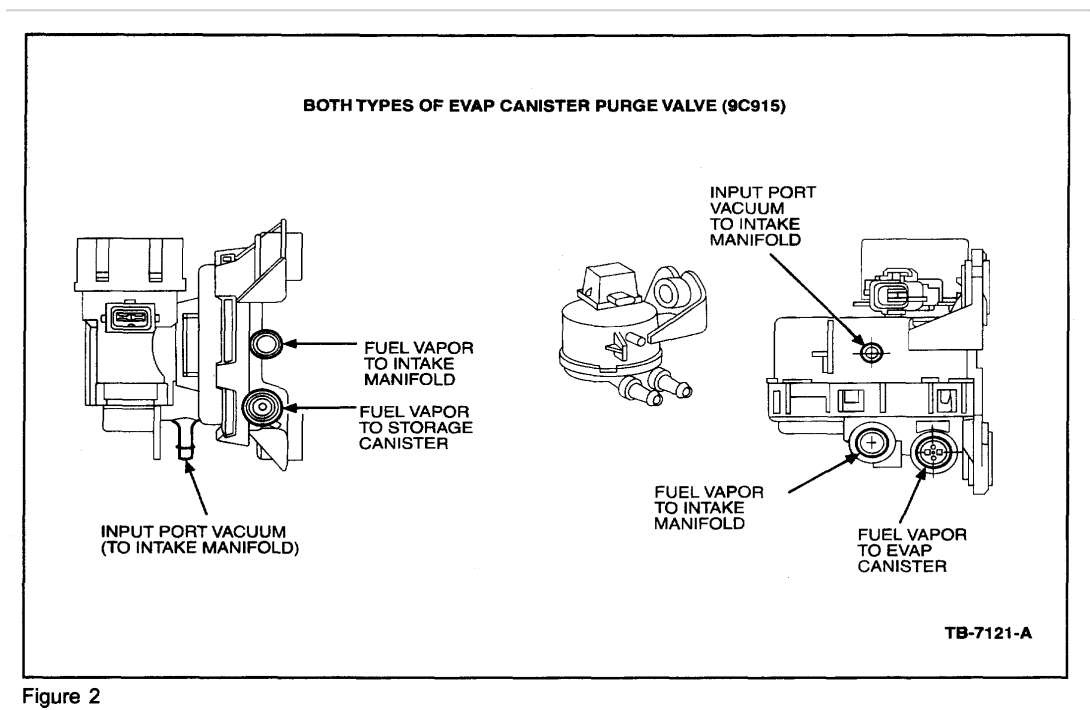
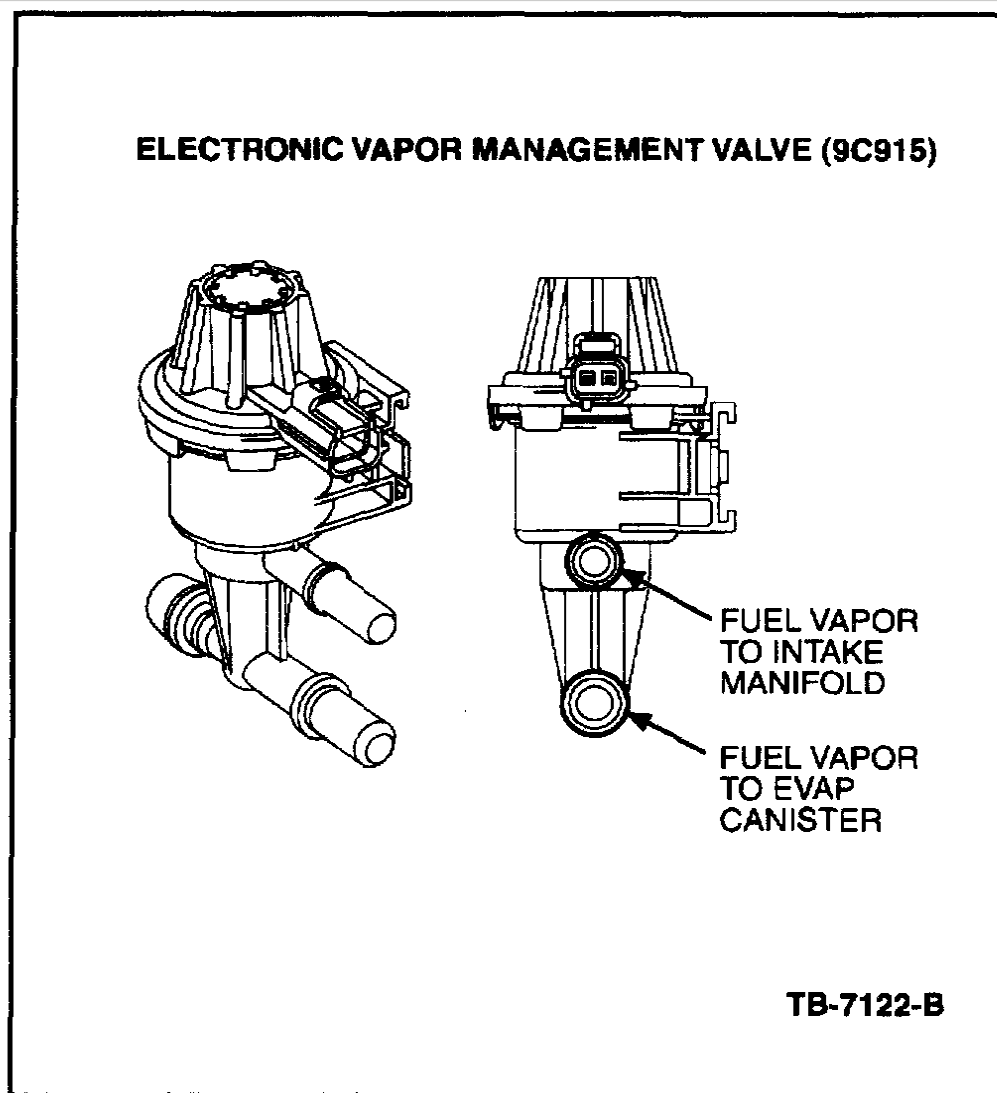

Figure 2
Figure 3
1. Disconnect the larger of two manifold vacuum lines at the EVAP Canister Purge Valve and cap it at the EVAP Canister Purge Valve (see Figure 2).
DO NOT REMOVE THE SCHRADER VALVE. REMOVING THE SCHRADER VALVE FROM THE TEST PORT ON VEHICLES EQUIPPED WITH THE ELECTRONIC VAPOR MANAGEMENT VALVE (9G641) AND/OR ELECTRONIC VAPOR MANAGEMENT VALVE & BRACKET ASSEMBLY (9G683) (SEE FIGURE 3), OR EVAP CANISTER PURGE VALVE (9C915) AND/OR EVAP CANISTER PURGE VALVE & BRACKET ASSEMBLY (9F933) (SEE FIGURE 2) WILL PERMANENTLY DAMAGE THE VALVE.